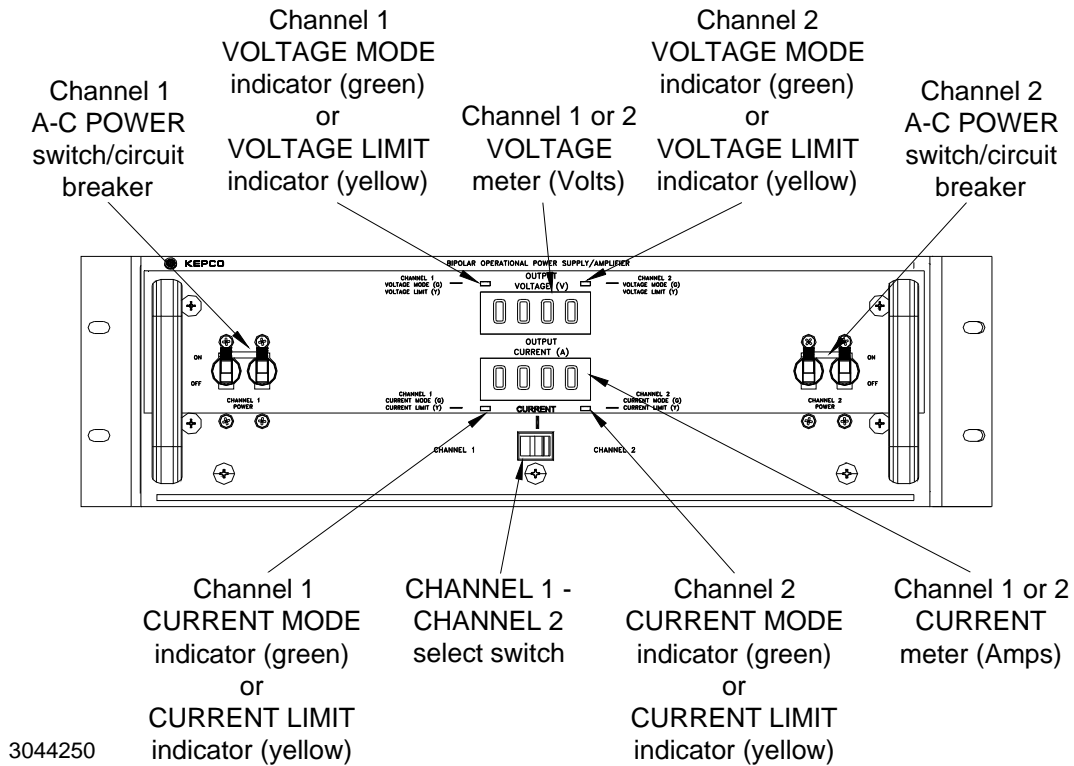

FIGURE 4. BOP 2X SERIES, FRONT PANEL CONTROLS AND INDICATORS
4. Set AC POWER switch/circuit breaker for the desired channel to ON (see Figure 4). **CAUTION: DO NOT repeatedly toggle the POWER on/off switch as this may cause unit to fault.** If actuator does not lock when released, wait a few seconds before trying again. The circuit breaker is "trip-free;" if overload exists, contacts cannot be held closed by actuator.